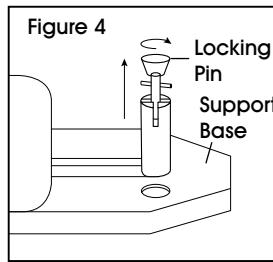

Figure 4
4. Pull the pin up and twist 90°. (See Figure 4)